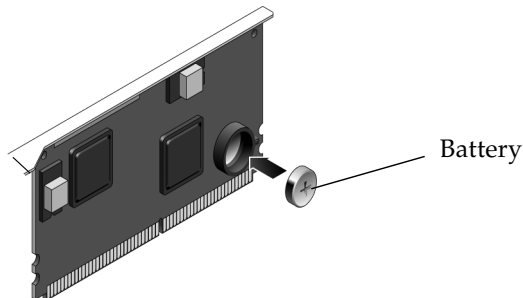

FIGURE 5-28 Replacing the Battery in the System Controller
2. Press the new battery into the system controller (FIGURE 5-28) with the positive side (+) facing upward (away from the card).